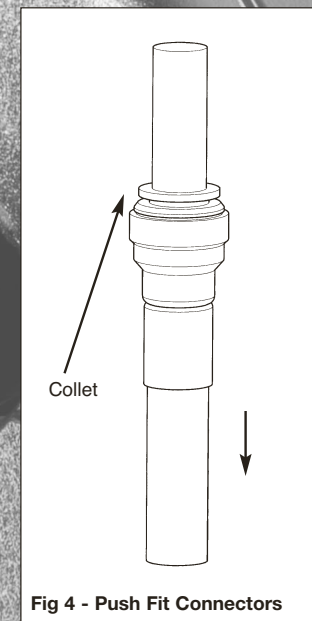

Fig 4 - Push Fit Connectors
3. If this is not possible, a direct connection must be made from the hot water cylinder with an Essex Flange with dip tube. (See Fig 4)
The integral fittings on the hose are of the push fit type. All burrs and rough edges must be removed from the end of the pipe. In the case of a chrome-plated tube, the first 25mm of plating should be roughened or removed. Should it be necessary to remove the pipe after installation, push down the grey collet. (Fig 4)